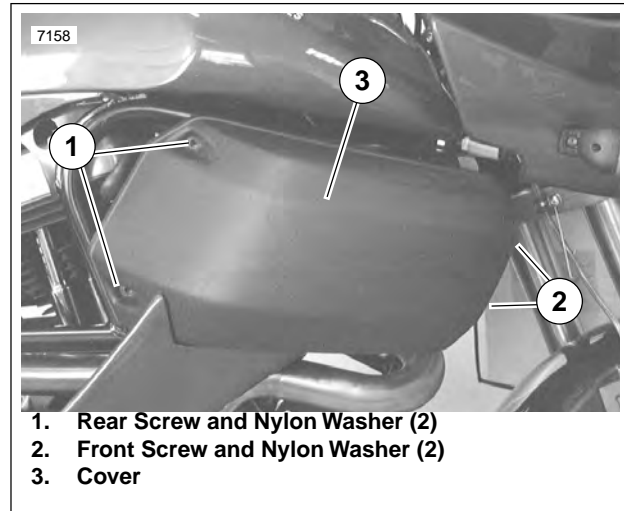
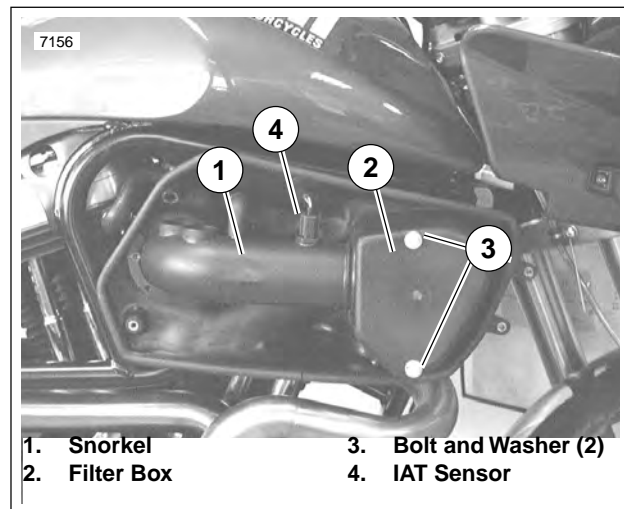

Figure 1-42. Air Cleaner Cover
Figure 1-43. Filter Box
1. See Figure 1-42. Remove both front screws and nylon washers (2).
3. Remove both rear screws and nylon washers (1). Remove cover (3) with attached fairing lower if present.
4. See Figure 1-43. Remove bolts and washers (3) from filter box (2). Slide filter box forward, away from snorkel (1).
4. See Figure 1-43. Apply LOCTITE THREADLOCKER 243 (blue) to bolts (3). Fasten filter box to backplate with bolts and washers (3).
5. See Figure 1-42. Place cover (3) over backplate assembly. Install both rear screws and nylon washers (1).
6. Install both front screws and nylon washers (2).